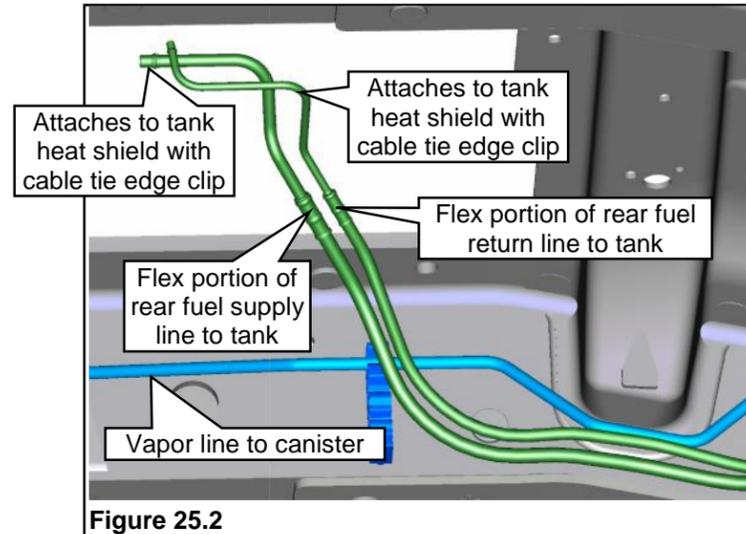
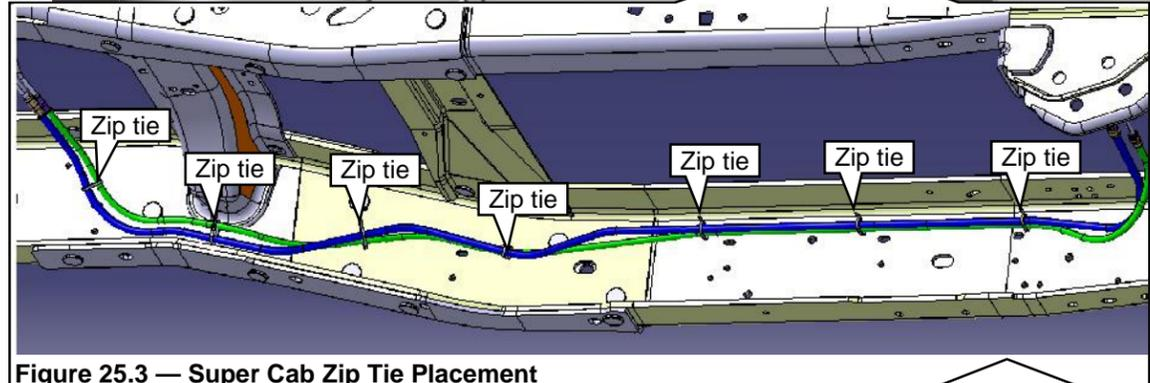

Figure 25.2
Figure 25.3 — Super Cab Zip Tie Placement
4. Route the back of the rear fuel supply and return lines up to the tank location. **Figure 25.2**. Use five zip ties to secure the fuel supply line to the fuel return line on the Regular cab (center graphic) and seven zip ties to secure the lines in the Super and Crew cabs. **Figures 25.3** and **25.4**. The lines attach to the tank heat shield with cable tie edge clips after the tank is installed.